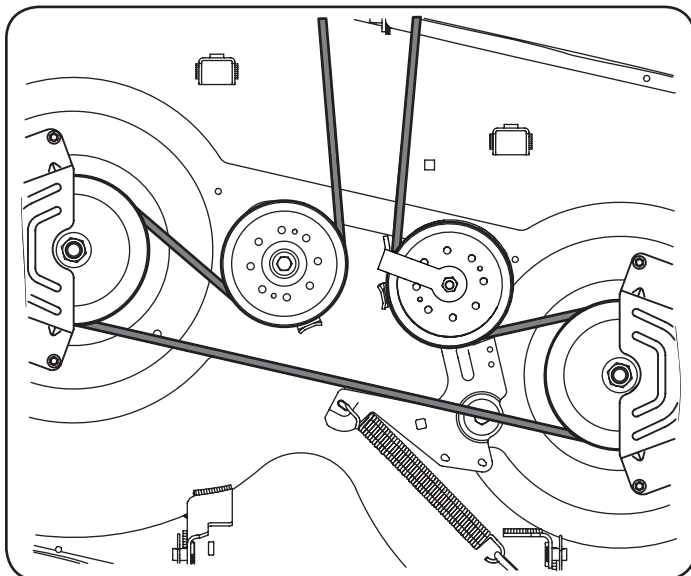

Figure 26
- Route the new belt as shown in Figure 26.